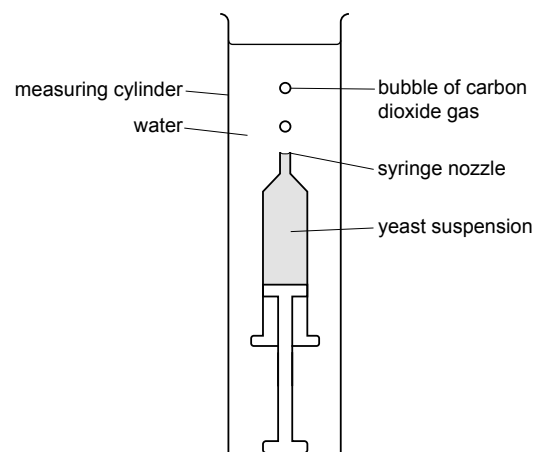

Fig. 1.1
- Step 2 Gently lower the syringe into the measuring cylinder, as shown in Fig. 1.1.